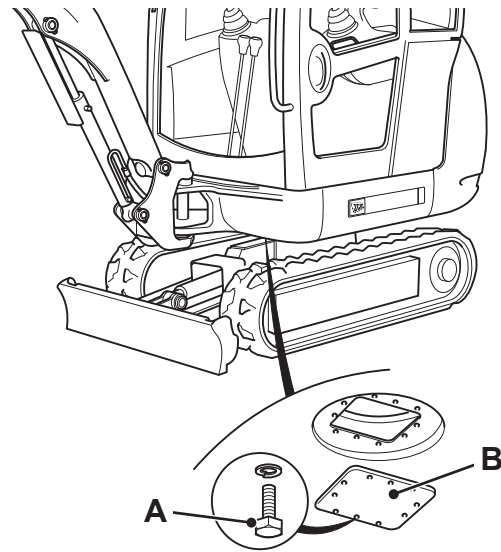

Fig 3.
- 3 Remove bolts **A** and plate **B** in the underside of the undercarriage. → Fig 3. \(□ 3-23\)